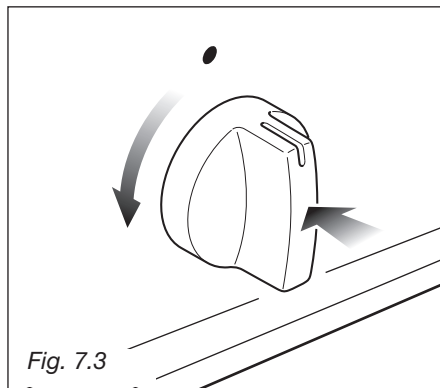

Fig. 7.3
- 2) Lightly press and turn the temperature knob anti-clockwise (fig. 7.3) to the max position (★ fig. 7.1).